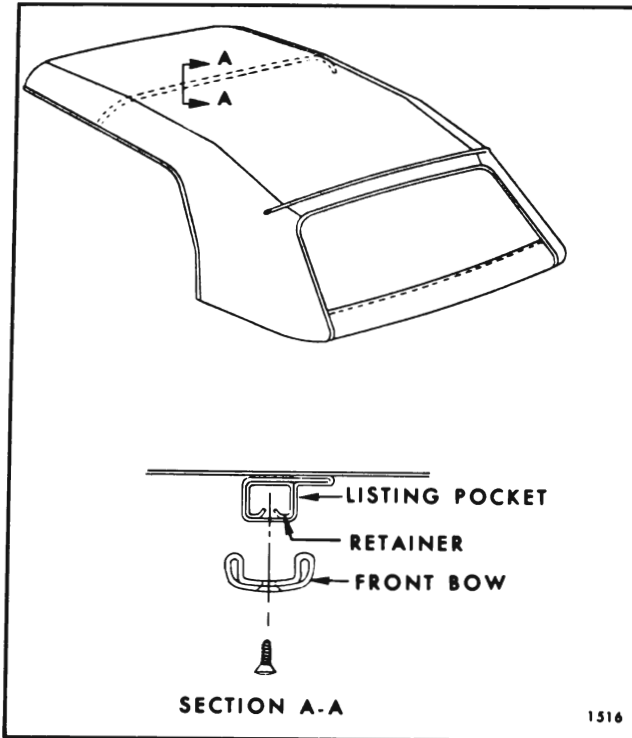

Fig. 13-4 — Listing Pocket Retainer
15. At underside of front bow, remove screws securing listing pocket retainer to bow (Fig. 13-4).